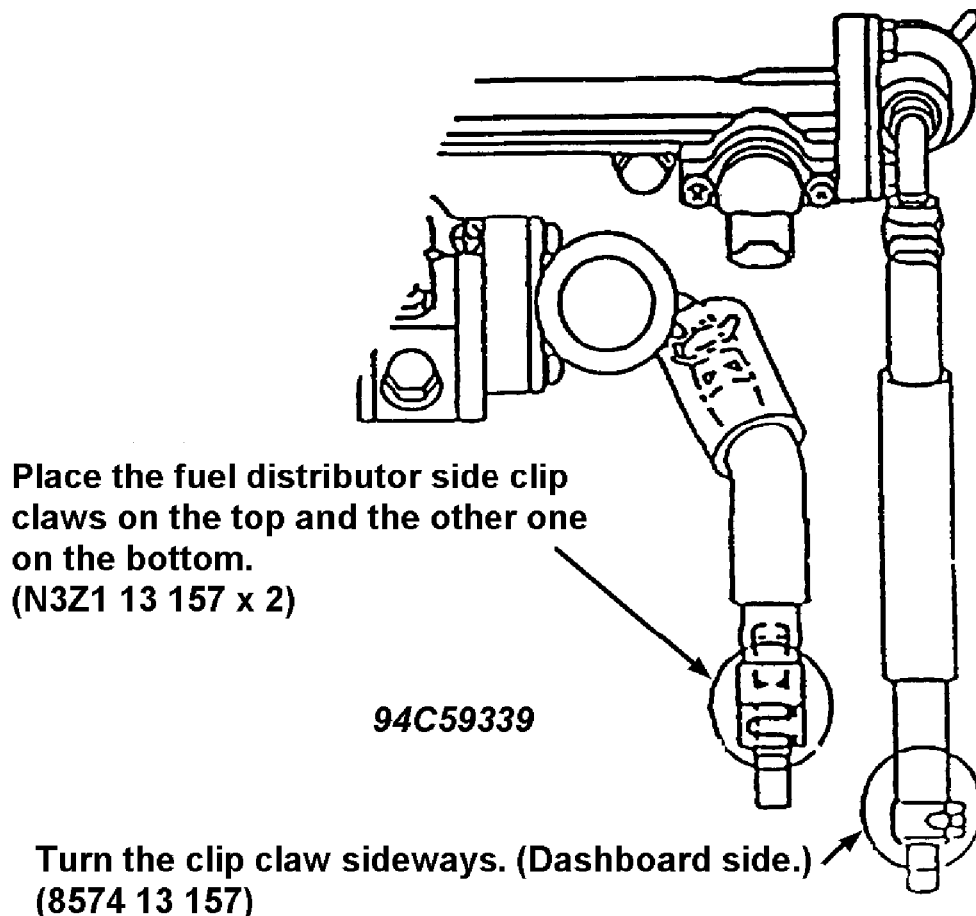

Fig. 26: Connecting Hose Fuel Distributor & Vacuum Pipe Assembly
pipe-assembly. See Fig. 26.
- \* For the direction of the clip claw, see Fig. 26.